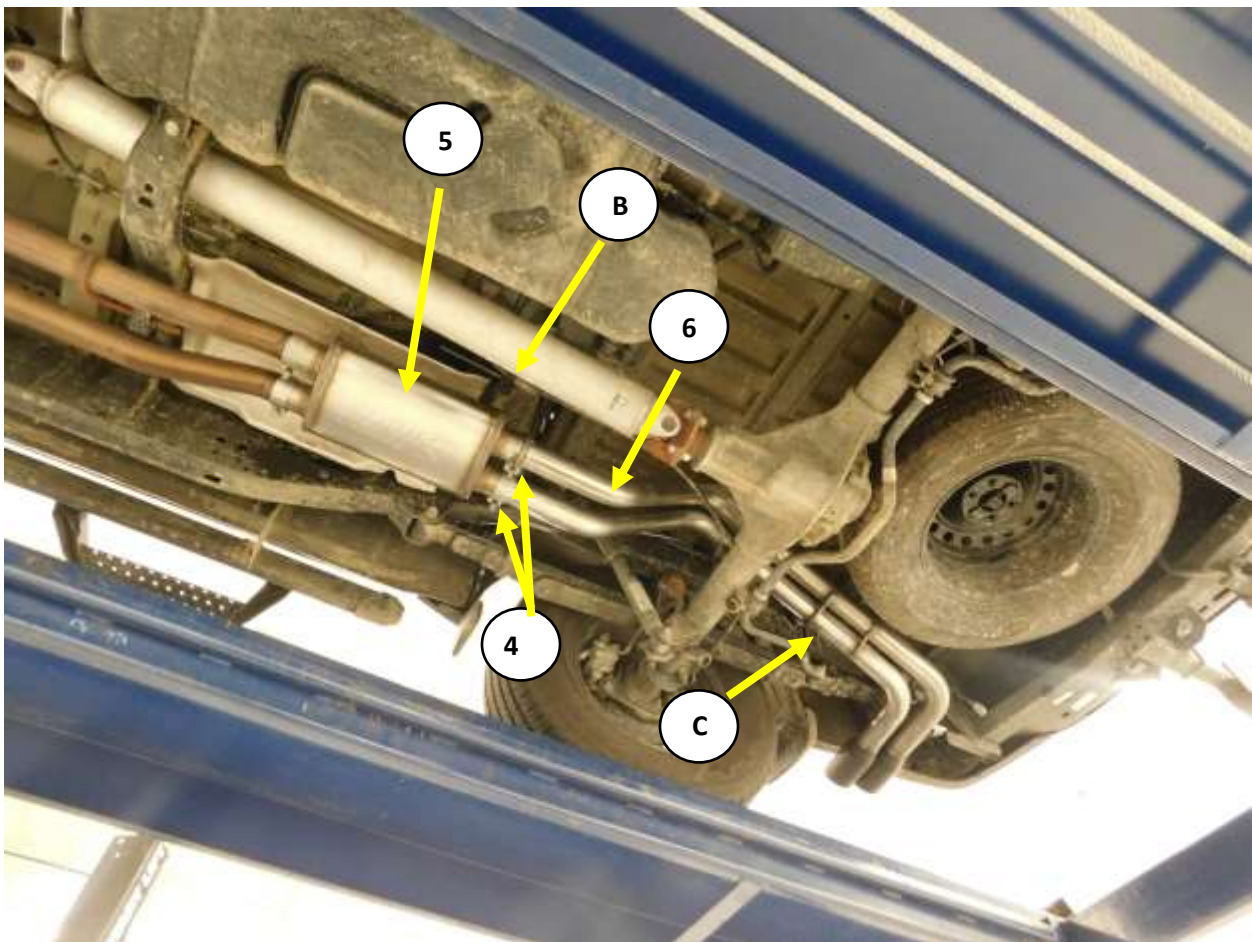

Figure. 4
8. Install the FlowFX Muffler **(5)** on to the inlet pipes with the seam to the inside and the Flow FX logo running front to back. Support the muffler from hanging on the inlet pipes. **Fig.4**
11. Install the tail pipe assembly **(6)** over the axle, Install the hanger rod at the back of the tail pipe into the tail pipe hanger isolator on the frame rail **(C)**. **Fig.4**